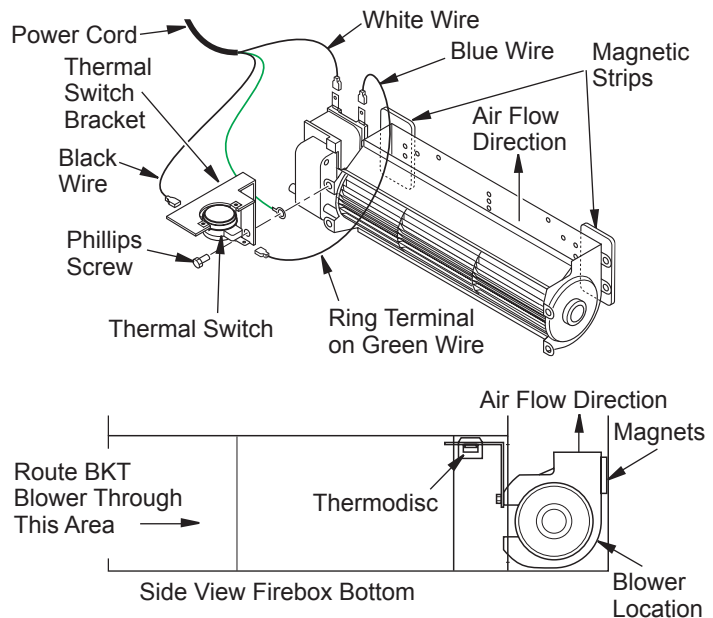

Figure 28 - Blower Model BKT
1. Place the green ground wire with ring terminal between the bottom hole on the thermal switch bracket and the top ear hole on the blower assembly. Insert the phillips screw into all three pieces and tighten securely (see Figure 28).
3. Place the blower against the lower rear wall of the firebox outer wrapper with the exhaust port directed upward and the thermodisc positioned up near the fireplace bottom. The thermodisc must be oriented near the fireplace bottom as shown in Figure 28, in order to sense temperature and properly operate. The blower will be held in position against the back wall by the magnets incorporated onto the blower housing (see Figure 28).